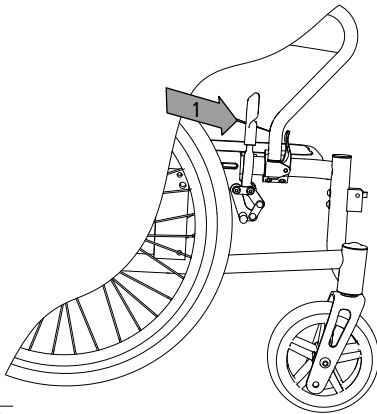

Fig. 19
1. Activate the parking brakes when stationary (tyre brakes). To do so, push the lever forwards as far as possible (1, Fig. 19), until it automatically holds. The wheelchair is now stable; you can transfer to another chair or park it.